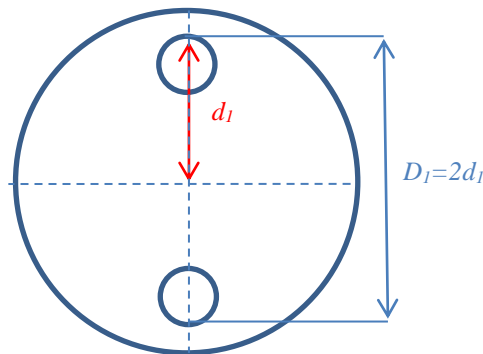

Fig.2. Diagram illustrating how to estimate the distance between holes.
- Measure the doubled distance D_i between the pivot point and the center of mass (cf. Fig.2). For each chosen pair of holes repeat the measurements several times (approximately 6-7 times, unless the supervisor indicates otherwise).